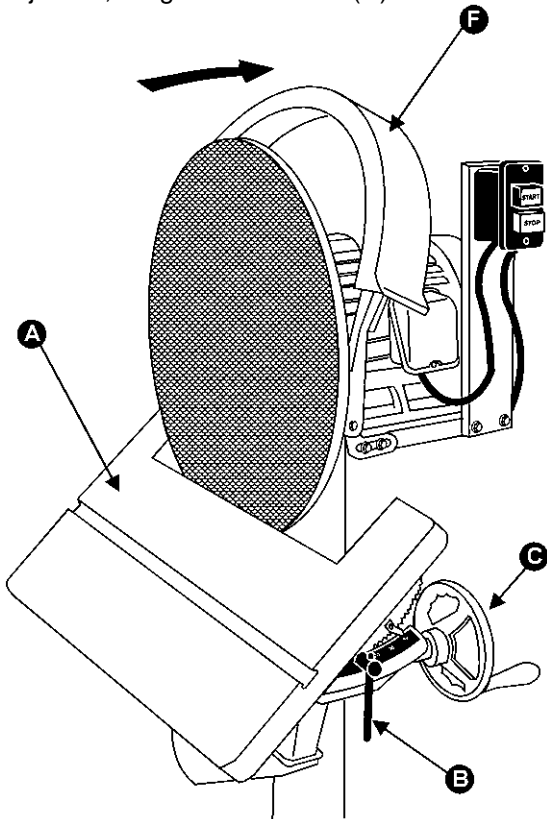

FIGURE 1
The working table (A) can be tilted 30 degrees toward the sanding disc, and 45 degrees away from the sanding disc, see Figure 1. Simply loosen the knob (B), and turn the handwheel (C). After table is adjusted, retighten the knob (B).
Before changing the abrasive disc, lower the working table (A) and push back the guard (F), Figure 1. The sander takes standard 20" diameter cloth or paper-back discs. We recommend 60 grit for coarse or rough sanding, 80 grit for general purpose medium duty sanding, and 100 grit for fine sanding.